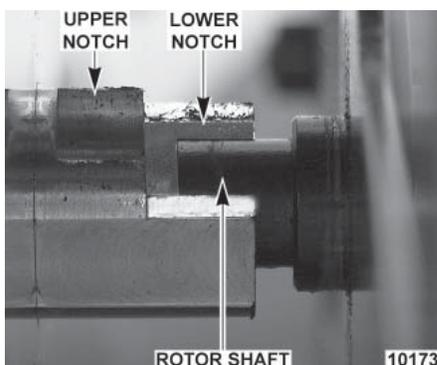

Figure 8
STEP 5: Nudge rotor toward the drive arm. Non-drive end of rotor shaft falls into the lower portion of support bearing hub (Figure 8). Drive end of rotor shaft is driven into center hole of drive arm.